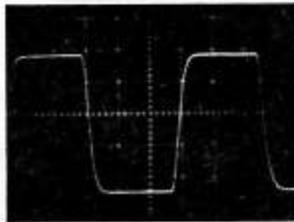

Fig. 7.
- Fig 7. 10kHz squarewave, 8Ω@ 2μF Damping factor medium